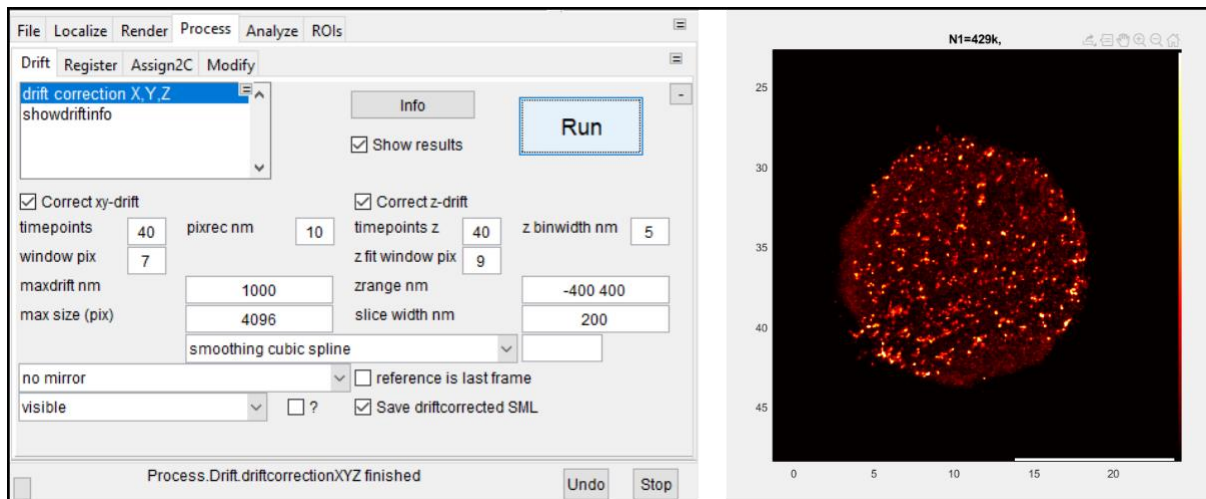

Figure 6: GUI for drift correction.
Supplementary Figure 6: Axial localization precision for clathrin (**a**, Fig. 4a, Supplementary Figure 5), and microtubules (**b**, Fig. 4c). As every localization has random photon number, we normalized the localization precisions by the average localization precision σ_{av} . Left: dSALM localization precision σ_{SALM} , center: astigmatism localization precision σ_{astig} . For small z (< 200 nm) σ_{SALM} is close to σ_{av} and thus determines the overall localization precision σ_{av} . For larger z , σ_{astig} is close to σ_{av} and determines the overall localization precision. The right panel shows the ratio of $\sigma_{astig}/\sigma_{SALM}$ and thus the resolution improvement of dSALM alone vs astigmatism alone. Red lines denote a running median.
2. Ensure on top right corner of SMAP GUI, only Layer1 is checked for display. Only the UAF part is taken for drift correction as shown in Figure 6.
3. Keep the parameters for drift correction as shown in Figure 6. The following parameters are important: